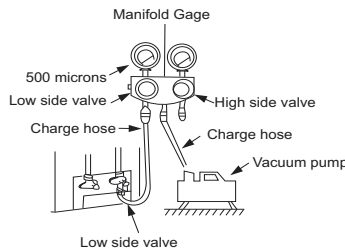

Fig. 15 – Manifold
3. Fully open the low side of manifold gage (see Fig. 15).